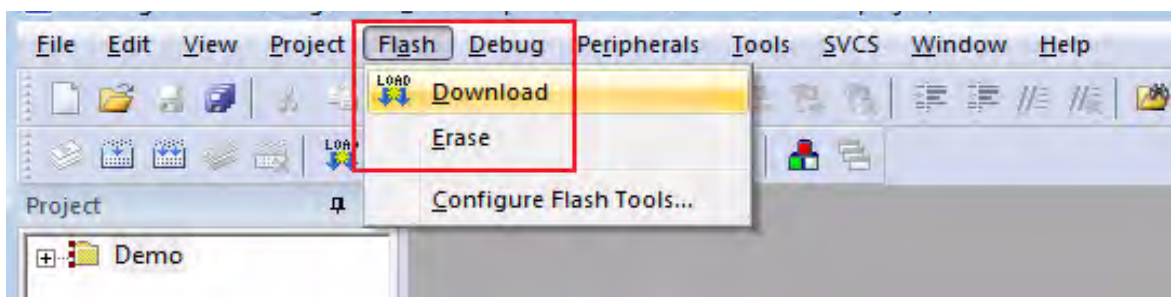

Figure 39. The Keil IDE Flash Menu
5. From the **Flash** menu of the Keil IDE (see Figure 39), select either of the following options: